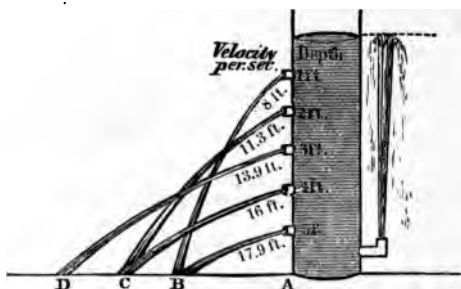

FIG. 60.—VELOCITY OF JETS.
is never reached in practice, nor is the calculated velocity ever quite reached, on account of the friction. The *range* of the spouting liquid may be found by multiplying the velocity of discharge by the number of seconds which it has to flow before striking the ground. This last is the same as the time in which a body would fall to the ground from the height of the opening. For example, in Fig. 60 the water flows from the middle orifice with a velocity of 13.9 feet per second. As this orifice is 8 feet from the ground, the time of falling from it to the ground is found by Art. 156 to be .43 second, and the range is 13.9 feet multiplied by .43, or 5.977 feet. So the range is determined for a liquid spouting horizontally from any opening.
It is thus found that if various openings be made in the side of a tall vessel sitting on a level surface, the range is greatest from that orifice which is midway between the top of the water and the level surface on which the range is measured, and that the range of any two jets equally distant from the middle one will always be the same.¹ Let the student work out the ranges of the various jets shown in Fig. 60, and also try the experiment, using a good flour-barrel with three smooth holes in the side, one in the middle, one above, and one below, each about 8 inches from it. They are better with short pieces of tube fitted into them. These are universal laws, and can be rigidly demonstrated.
Exercises.—1. Verify the velocities of the different jets in Fig. 60.
4. Making no allowance for the *vena contracta*, how much water would be discharged through the lowest opening in Fig. 60 in 1 minute if the opening is 1 inch square and the surface of the water be kept at the same height?